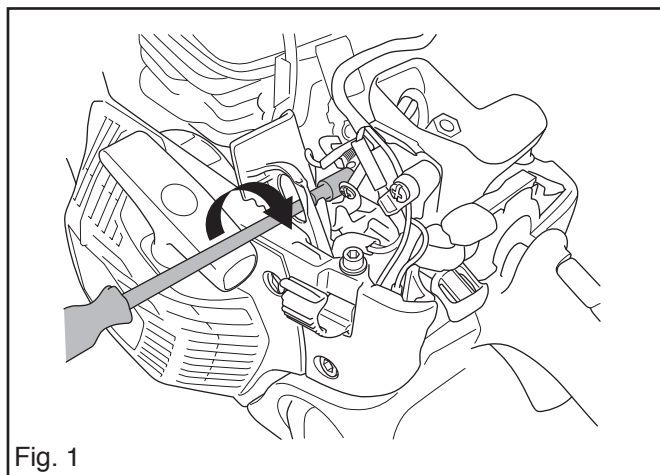
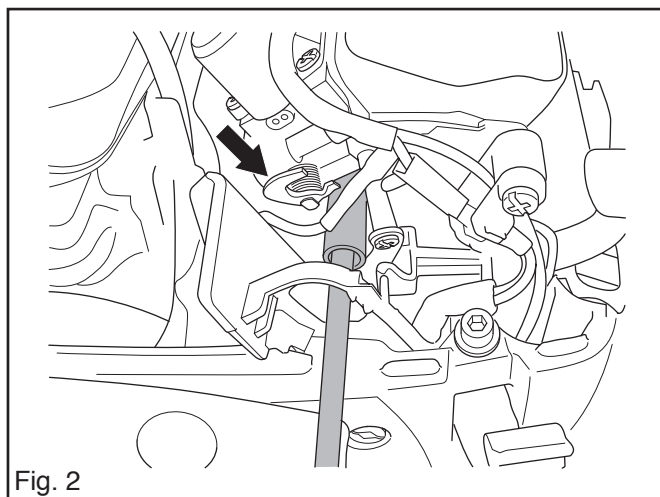

Fig. 1
Fig. 2
3. Screw the air screw $\frac{1}{4}$ turn clockwise with screwdriver 530 03 55-60 (Fig. 1). Make sure the rotation angle of the throttle axle changes by looking at the movement of the lever arm (Fig. 2). Then replace the cylinder cover, warm up the motor and test the product again.